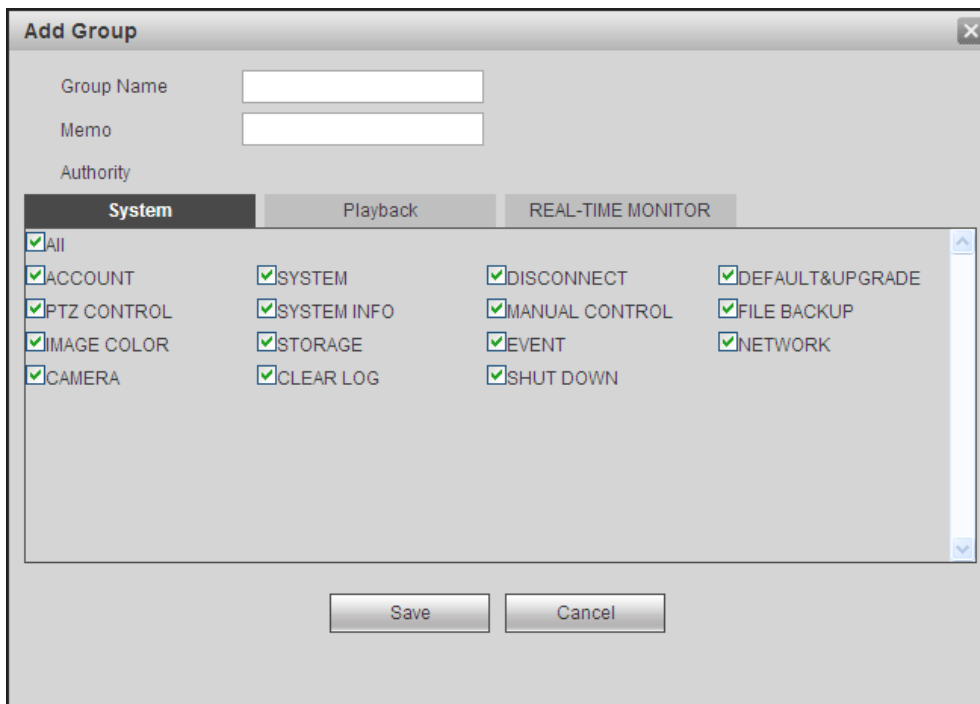

Figure 5-103
**Add group:** It is to add group and set its corresponding rights. See Figure 5-103.